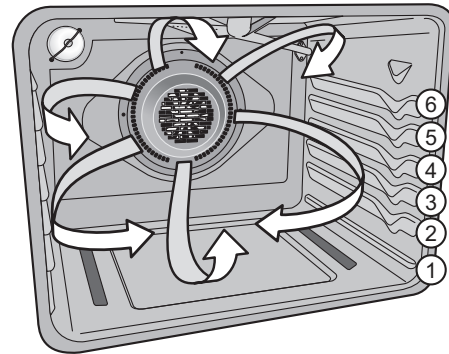

Figure 21: Rack positions
- When baking cakes using two oven racks place bakeware in positions 3 and 5 and place bakeware as shown in Figure 21.